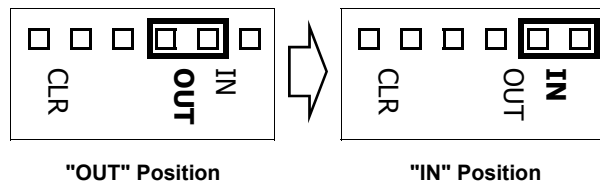

Fig. 11: Move the Memory Backup Cell jumper from the "OUT" position (shown above left) to the "IN" position (shown above right).
10. Move the MEMORY BACKUP CELL jumper from the OUT position to the IN position (see Fig. 11). The jumper in the IN position provides memory data retention for about two weeks after AC Mains has failed and the Gel-cell backup power has been fully discharged.